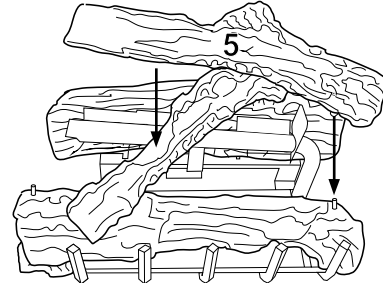

Figure 49 - Installing Log No. 5
5. Place log #5 (top log) onto right pin of front log (#2) and the smooth surface of crossover log (#4) as shown in Figure 49. Make sure it is seated properly.